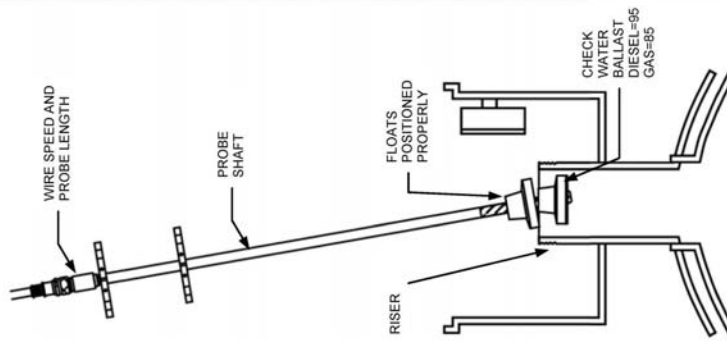

Fig. 5-1c: Probe Installation
2. Switch probes at tank (see Figure 5-1c).